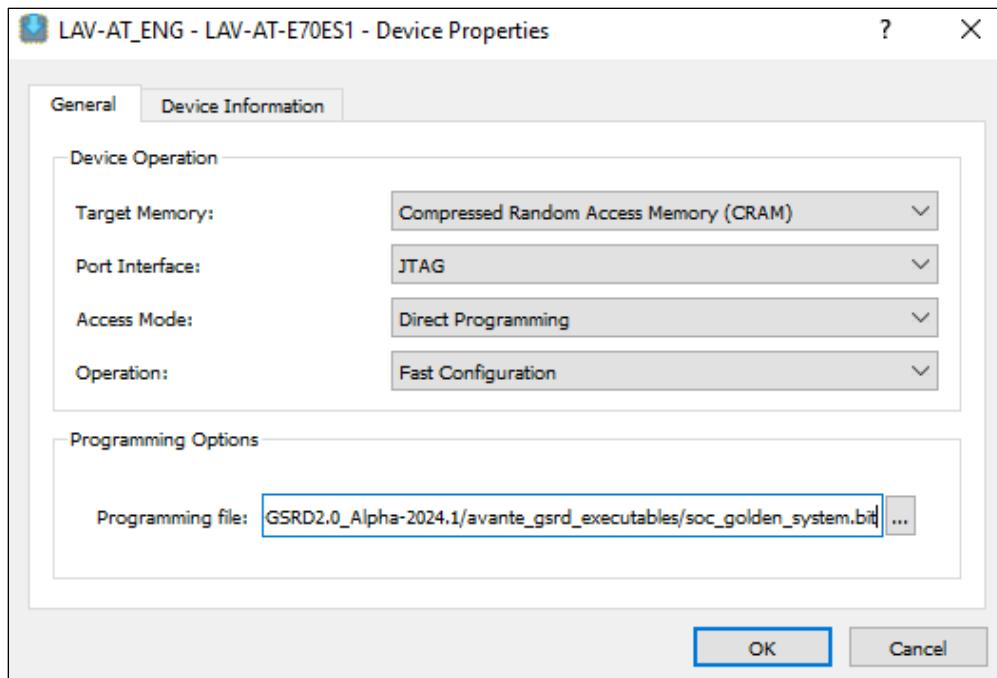

Figure 7.23. Device Properties to Program the FPGA Bitstream in CRAM
23. To program the FPGA Golden GSRD bitstream, double-click on the **Operation** tab to update the selections as shown in Figure 7.23. Make sure to provide the path to the .bit file location on your local machine where you have unzipped the executables.